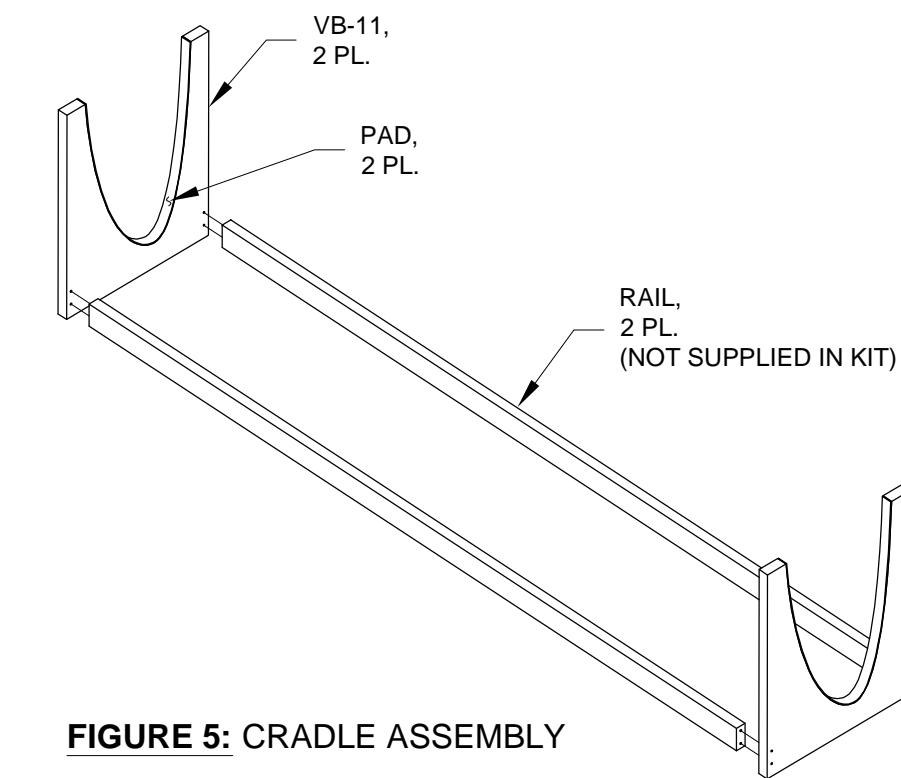

FIGURE 5: CRADLE ASSEMBLY
Step 4: Create a cradle to hold both the leading edge and tank assemblies during assembly. First remove the material indicated by the hatched area in Figure 4 from the VB-11 Wing Leading Edge Vee Blocks. Save the removed material, it will be used later to create the flap cradle. Make rails 57 1/2 inches long to interconnect the vee blocks. Assemble the cradle as shown in Figure 5. Line the inside face of the cradle with duct tape or weather strip as shown in Figure 5.